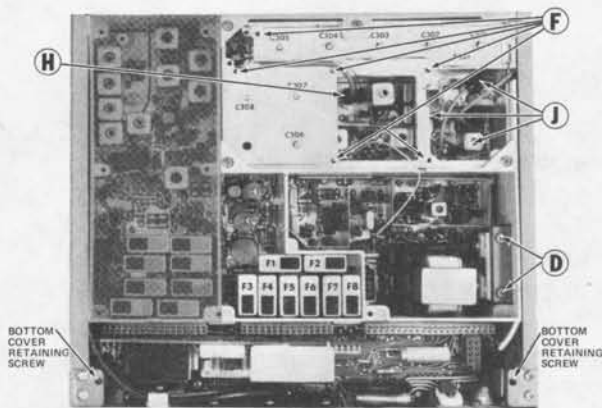

Figure 2 Disassembly Procedure (Top View)
2. Remove the top cover, then loosen the two bottom cover retaining screws and remove the bottom cover (see Figure 2).